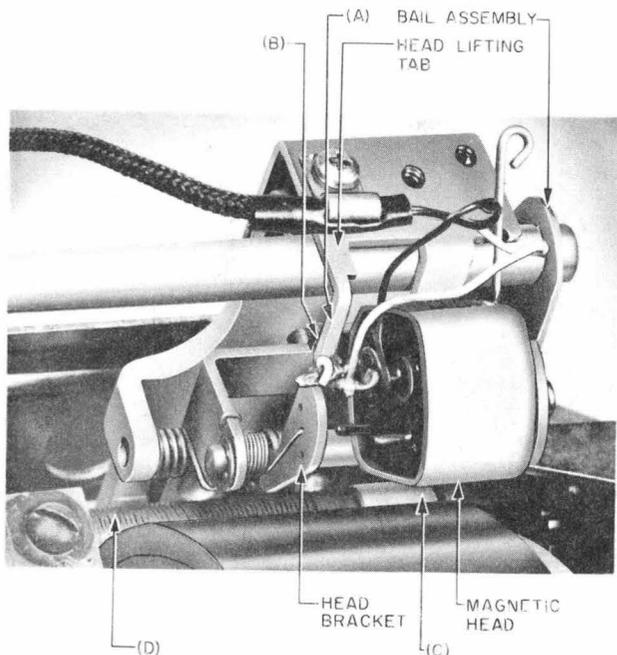

Fig. 7—Magnetic Head Lifting Tab Position (Shown in Unoperated Position)
- (b) **Magnetic Head:** The pole piece of the head (Fig. 7) shall be free of dust, wax, dirt, or any other foreign matter. Lift the head to its highest position, and observe the surface of the pole piece. Gauge by sight.
(e) **Threads of Feed Screw and Half-Nut:** Apply a film of KS-19139, L4, lubricant on the feed screw [Fig. 7(D)] and half-nut mounted on bracket assembly. Stir the lubricant thoroughly before using.
- With the L1 solenoid electrically operated, the clearance between the magnetic head bracket and the head lifting tab [Fig. 7(A) and 12(A)] shall be a minimum of 1/32 inch. Gauge by sight.
- With the L1 solenoid electrically operated, the clearance between the magnetic head and the head lifting tab [Fig. 7(B) and 12(B)] shall be a minimum of 1/32 inch. Gauge by sight.
- With the L1 solenoid unoperated, the clearance between the magnetic head and the recording band [Fig. 7(C)] shall be a minimum of 1/32 inch. Gauge by sight.